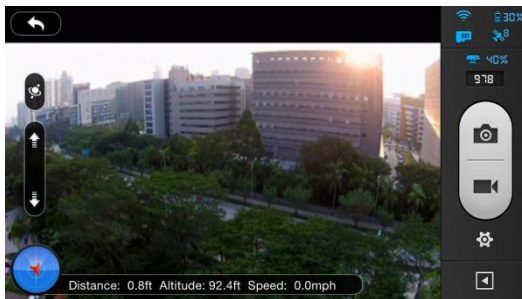

Figure 48
5. Tap the “CAMERA” icon and the DJI VISION App will begin a live camera preview (Figure48). This means everything is functioning normally.